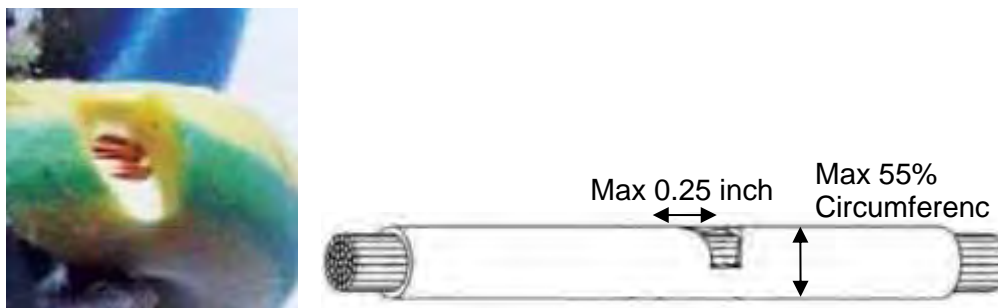

Figure 6
- (1) Cracked or broken insulation. If conductor is exposed, there shall be no damage to the conductor, and the exposed conductor shall be no longer than .25 inch along the length of the wire or in the longest length from an edge of the damage to the other side. The amount of insulation damage at the widest point shall be less than 55% of wire or cable circumference, as shown in Figure 6.